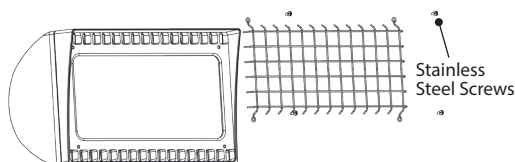
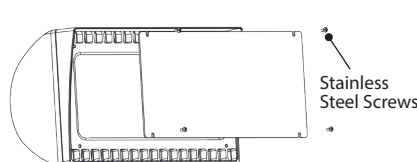
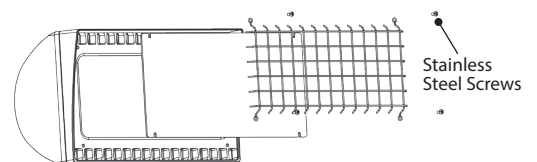

Fig. 1
Fig. 2
Fig. 3
Wire Guard and Poly Shield mount with (4) #8-32 **Stainless Steel Screws**. Screws are provided with accessory. Guard and Shield may be used together. See **Figure 1** for Guard. See **Figure 2** for Shield. See **Figure 3** for both.